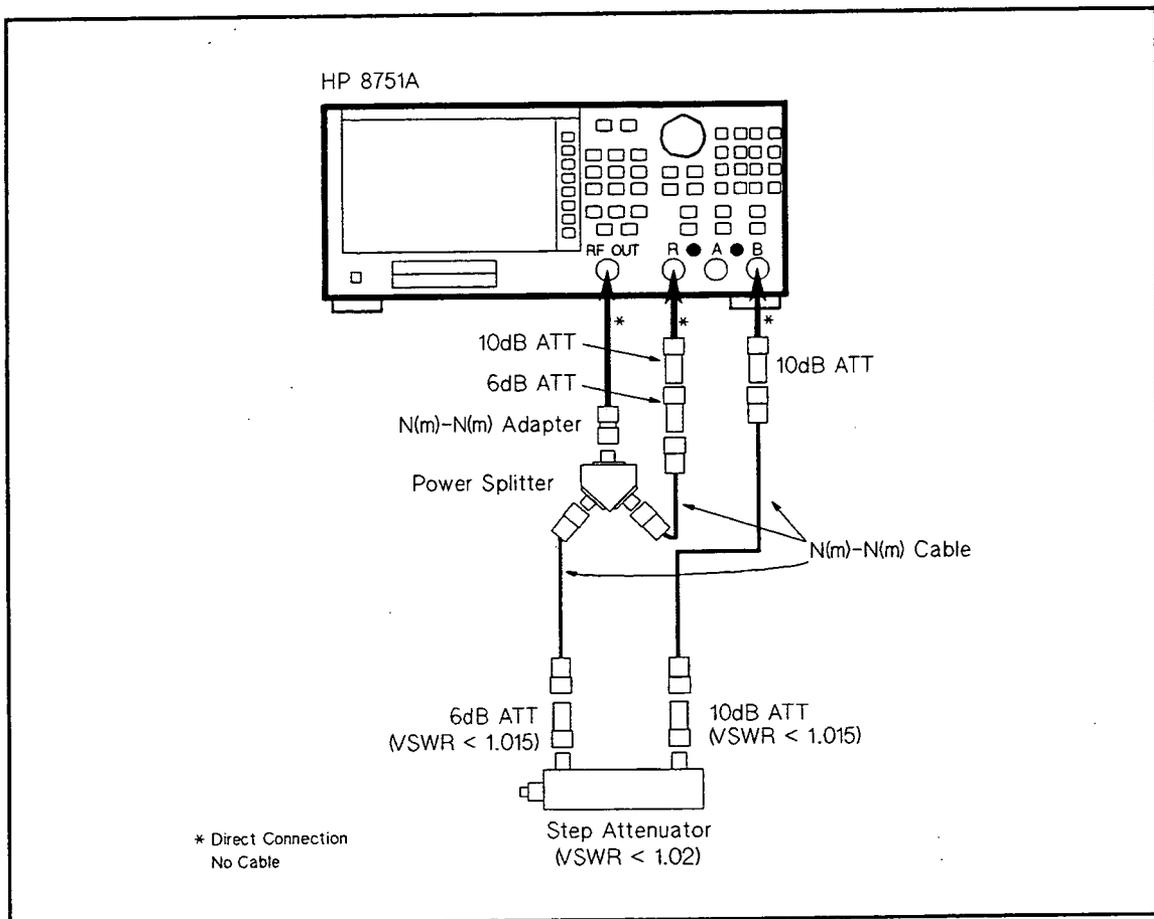

Figure 2-24. Magnitude Ratio/Phase Dynamic Accuracy Test Setup 4
- n. Change the cable connection as shown in Figure 2-24.